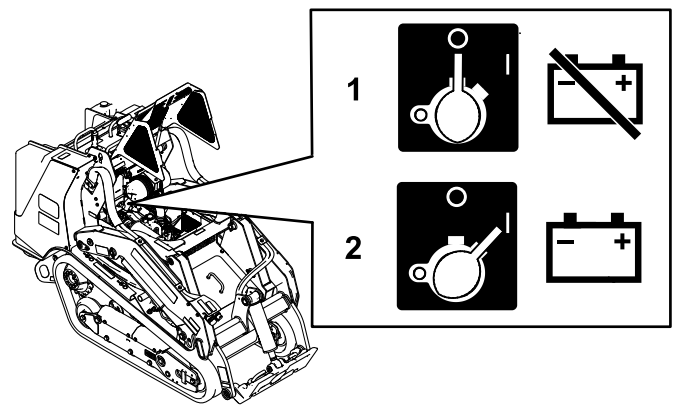

Figure 50
- To energize the machine electrically, rotate the battery-disconnect switch clockwise to the ON position (Figure 50).
- To de-energize the machine electrically, rotate the battery-disconnect switch counterclockwise to the OFF position (Figure 50).